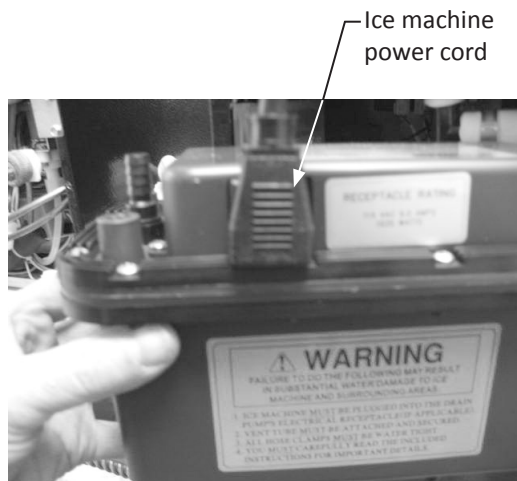

Figure 27
5. Disconnect the ice machine power cord from the drain pump (See Figure 27).